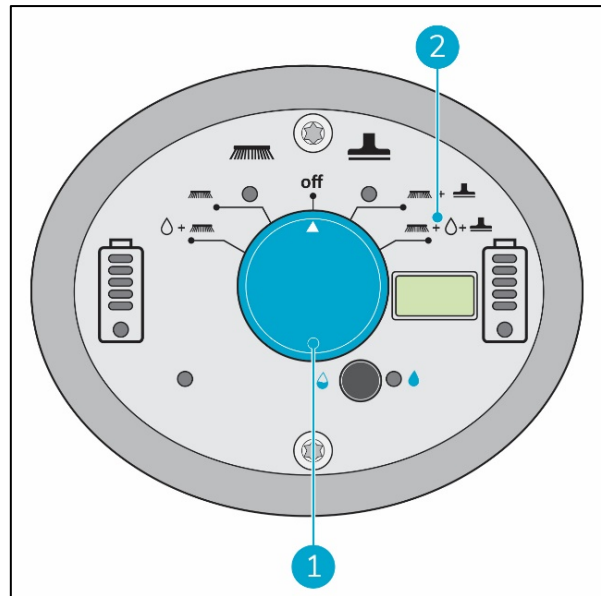

Figure 22
2. Use the i-mop® XL pro main switch (Figure 22, pos 1) and choose MODE 4 Brush + Water/Cleaning solution + Dry vacuum (Figure 22, pos 2).